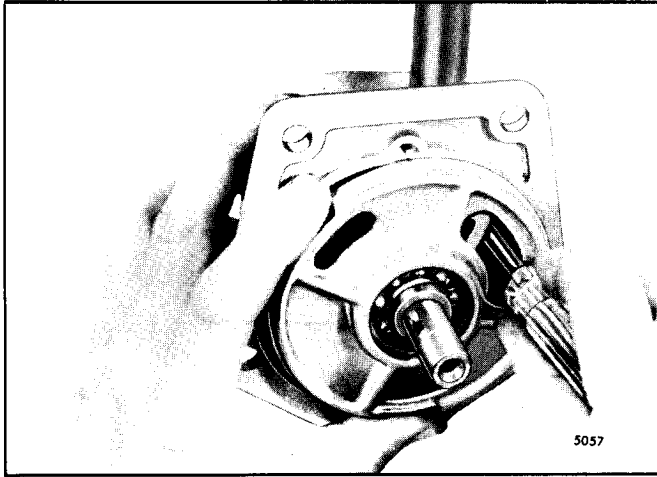

Fig. 6 - Removing or Installing Operating Shaft Fork
3. Turn the bearing retainer until the large opening is centered over the fork on the governor operating shaft (Fig. 6).
7. Insert the correct end of the, single or double lever type, speed control lever shaft (Fig. 6) through the bearing bore in the side of the spring housing opposite the bearing previously installed. Align the key in the shaft with the keyway in the spring lever and push the shaft through the lever and in the bearing until the flat on the top of the shaft is centered under the set screw hole in the lever.
7. Turn the bearing retainer until the large opening is over the fork on the operating shaft. Then, tighten the two fork attaching screws with a 5/16" electrician's socket wrench (Fig. 6).